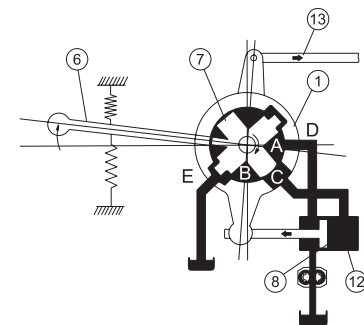

Figure 3-62
If lever (6) is operated to let valve core (7) rotate clockwise for an angle (see Figure 3-62), the passage between A and C will be opened, the pressure oil will enter the bottom of oil cylinder (12) to push piston (8) and valve cover (1) to rotate clockwise for an angle too, and the connecting rod (13) will operate the change valve's stem to move a distance. As at this point the rotation of valve cover (1) cuts off the passage between A and C, piston (8) will stop moving immediately. It can move continuously only when (6) continues to be operated.
If lever (6) is operated to let valve core (7) rotate clockwise for an angle (see Figure 3-62), the passage between A and C will be opened, the pressure oil will enter the oil cylinder to push piston (8) and valve cover (1) to rotate clockwise for an angle too, and the connecting rod (13) will operate the change valve's stem to move a distance. As at this point the rotation of valve cover (1) cuts off the passage between A and C, piston (8) will stop moving immediately. It can move continuously only when (6) continues to be operated.